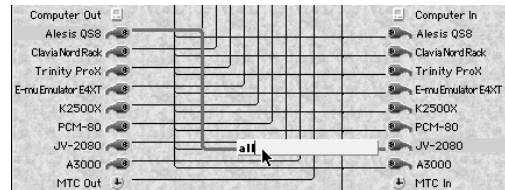

Figure 7-4: Setting the MIDI channels when making a connection.
- 2 When you release the mouse, the connection appears in the window as shown in Figure 7-4, along with an activated pop-up box on top of the connection with the word *all* in it.